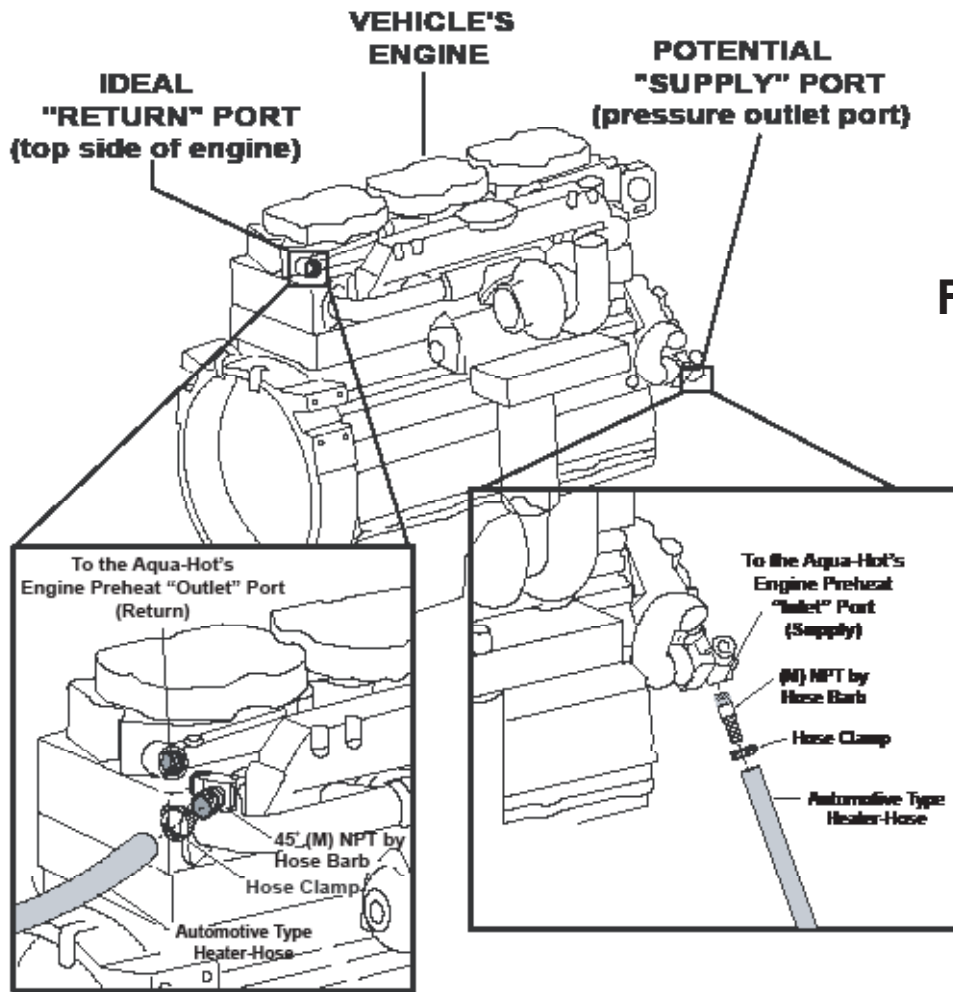

Figure 32
- The Supply and Return ports on the vehicle's engine should be kept as far apart as possible. This will ensure that the entire engine is thoroughly preheated; reference Figure 32.
The engine's Return port is where the heated coolant is returned to the Engine Block from the Aqua-Hot. This port should be a high connection point on the Engine Block or a suction port on the engine's Water Pump; reference Figure 32.
The engine's Supply port is where the engine's coolant is supplied to the Aqua-Hot's Engine Preheat Circulation Pump. This port should be a low connection point on the Engine Block or a pressure outlet port on the Engine's Water Pump; reference Figure 32.
5. Install and clamp both the Supply and Return engine Plumbing Lines/Automotive Type Heater Hoses to the Engine's Plumbing Fittings; reference Figure 32.